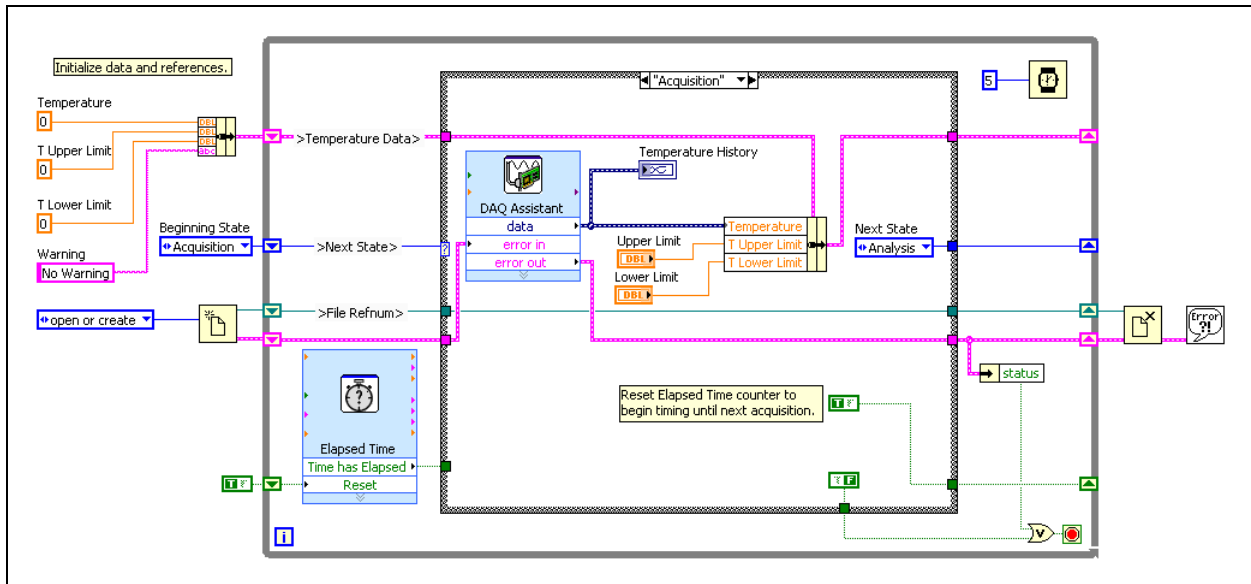

Figure 11-18. Complete Acquisition State
5. Figures 11-18 through 11-21 show an example of the final block diagram for each state. Complete any block diagram wiring that is still necessary. Pay particular attention to the Booleans in the lower right of each case. These Booleans determine when the state machine stops, and when the Elapsed Time Express VI count is reset.